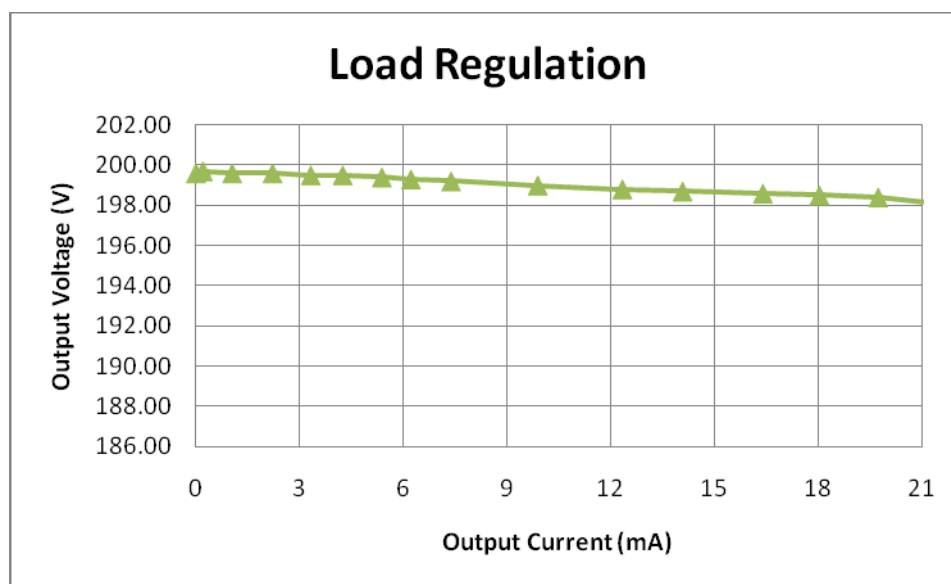

Figure 3: CS5171 12V to 200V Load Regulation
5. Set I_{OUT} to desired level 0 mA- 20 mA and measure voltage and current. The efficiency should be similar to that shown in Figure 3 and 4.